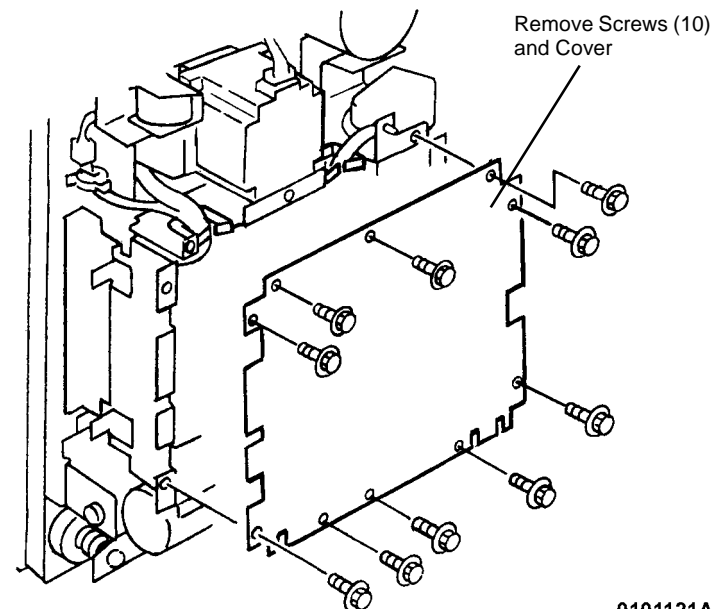

Figure 3 Removing the PWB Cover
4. Remove the PWB Cover (Figure 3).